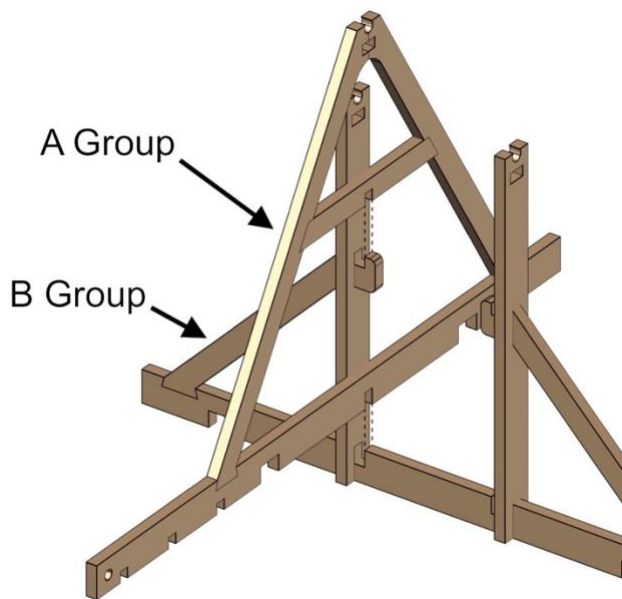

Fig. 11
- Align parts exactly as shown in Fig. 11.